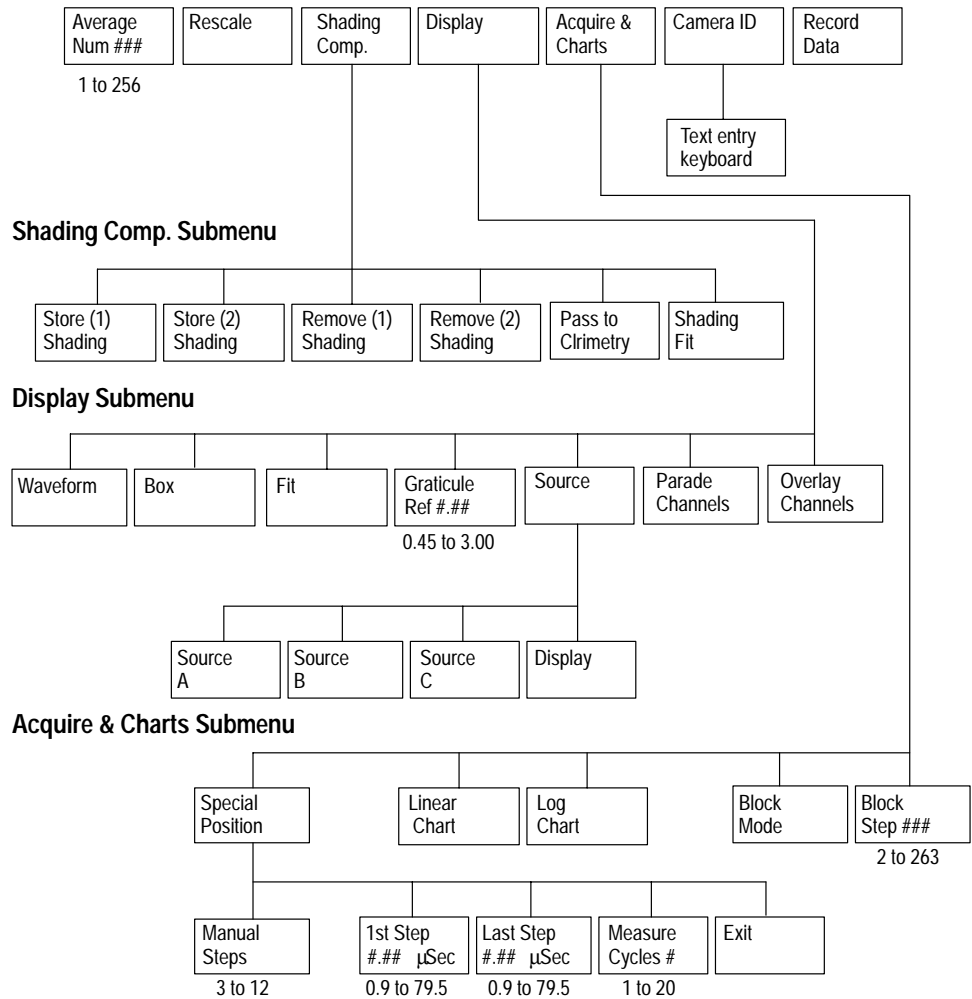

Figure 2–18: Gamma menu tree
**Gamma Menu** Pressing the Menu button when the Gamma application is running displays the Gamma main menu. The Gamma menu tree is shown in Figure 2–18.